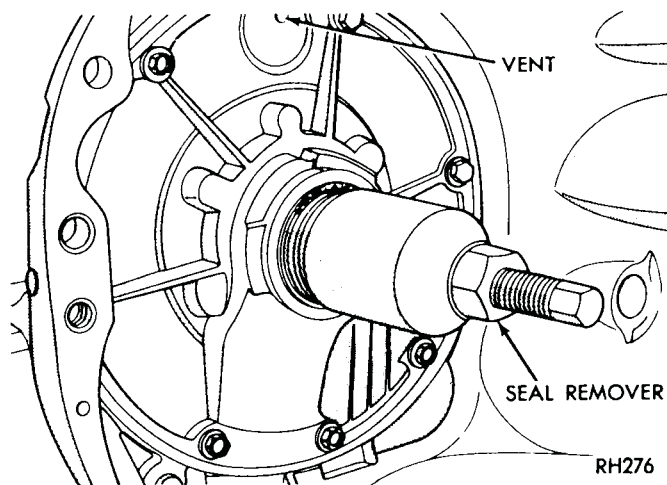

Fig. 3—Remove Pump Seal
(1) **A-904T and A-999:** Screw seal remover Tool C-3981 into seal (Fig. 3), then tighten screw portion of tool to withdraw the seal.